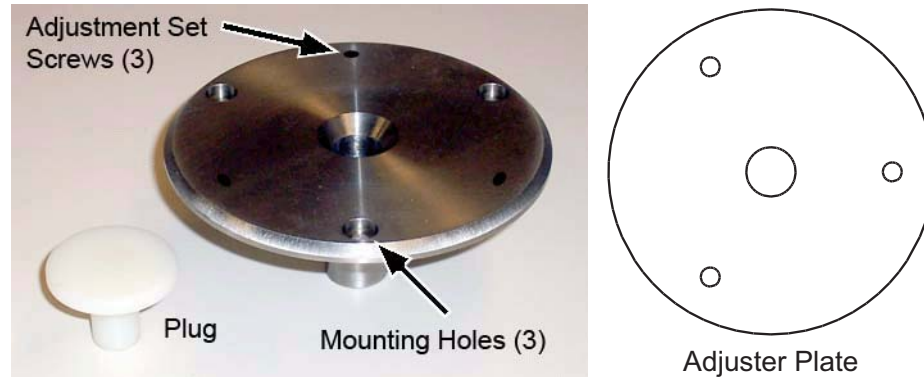

Figure 13-2 Receptor Bracket & Plug and Adjuster Plate
- 7.) Center the adjuster plates (Figure 13-2) over the 6 mm mounting holes.
- 9.) Insert the metal pin on the receptor brackets (Figure 13-2) through the adjuster plates and into the 1" holes and align with the three 6 mm mounting holes.
- 11.) Wheel the barrier (Figure 13-3) over to the receptor brackets and confirm that the barrier locking pins align with the receptor brackets. If the alignment is acceptable, tighten the screws you have access to. Remove the barrier and finish tightening the rest of the screws. The receptor bracket plugs (Figure 13-2) should be placed into the receptor bracket to prevent debris from falling into the holes when the Image Pasting Barrier is not in use.